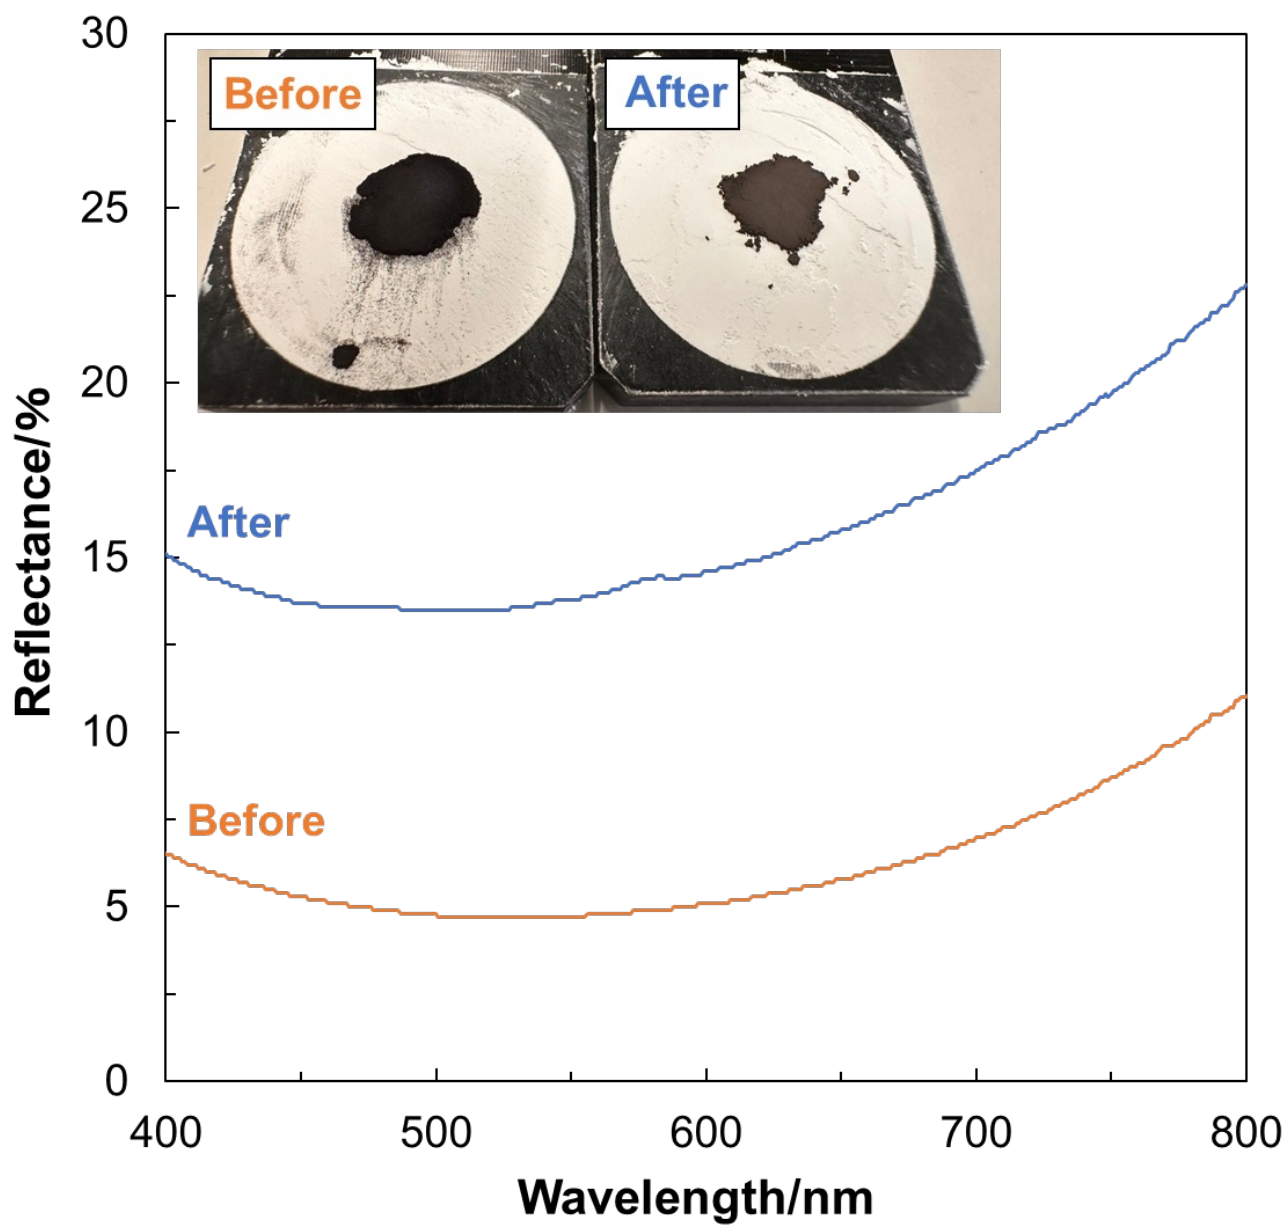

Fig. S3. Photographs and visible diffuse reflectance spectra of ME-Si and its powder after grinding.
- Photographs and visible diffuse reflectance spectra of ME-Si and its powder after grinding (Fig. S3)